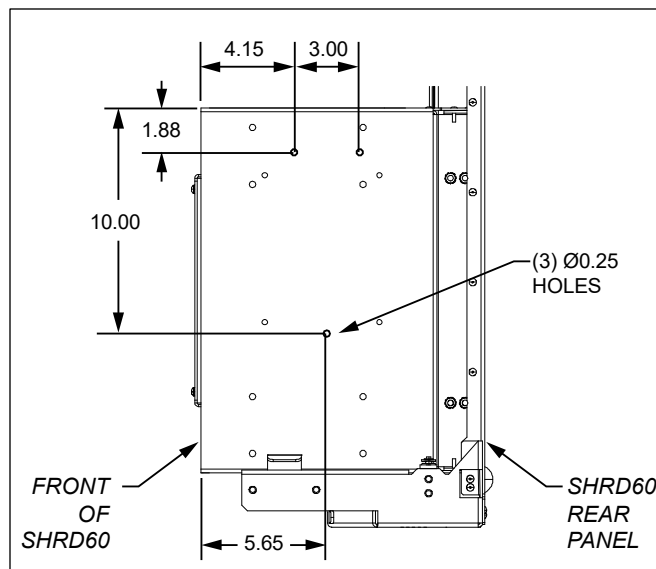

Figure 3
Prior to installing the kit, drill holes into the side-facing plates as shown in Figure 3. The image shows the right facing side plate; dimensions are the same for the left-facing plate. The power supply plate does not require drilling.
1. Drill three Ø0.25" mounting holes for the diplexer. Dimensions are shown in Figure 3.